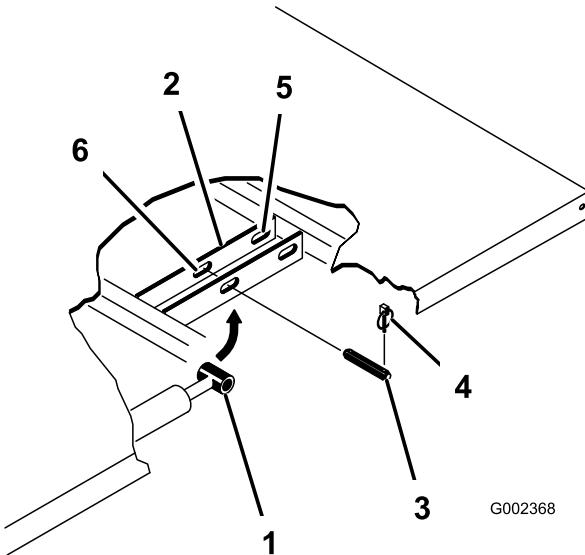

Figure 22
3. Remove the lynch pins from the outer ends of the cylinder rod clevis pins (Figure 22).
- 4. Remove the clevis pins securing the cylinder rod ends to the bed-mounting plates by pushing the pins toward the inside (Figure 22).
- 5. Remove the lynch pins and clevis pins securing the pivot brackets to the frame channels (Figure 22).